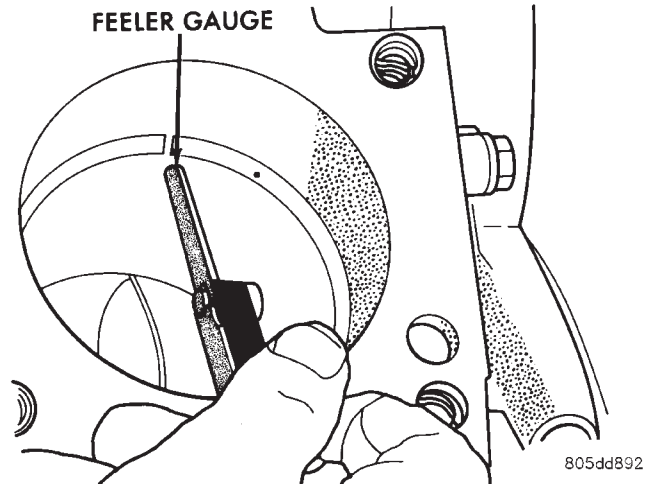

Fig. 12 Ring End Gap Measurement—Typical
(3) Using a piston, to ensure that the ring is squared in the cylinder bore, slide the ring downward into the cylinder.
(4) Using a feeler gauge check the ring end gap (Fig. 12). Replace any rings not within specification.